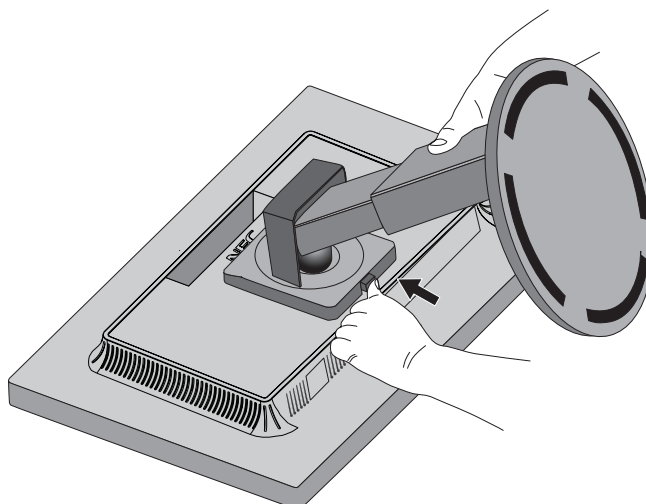

Figure S.1
3. Place monitor face down on a non-abrasive surface (**Figure S.1**).
4. Place one hand around the base and one hand on the Quick Release Lever. Push and hold the Quick Release Lever in the direction indicated by the arrows (**Figure S.1**).
5. Lift up the stand to unhook it from the monitor (**Figure S.1**).